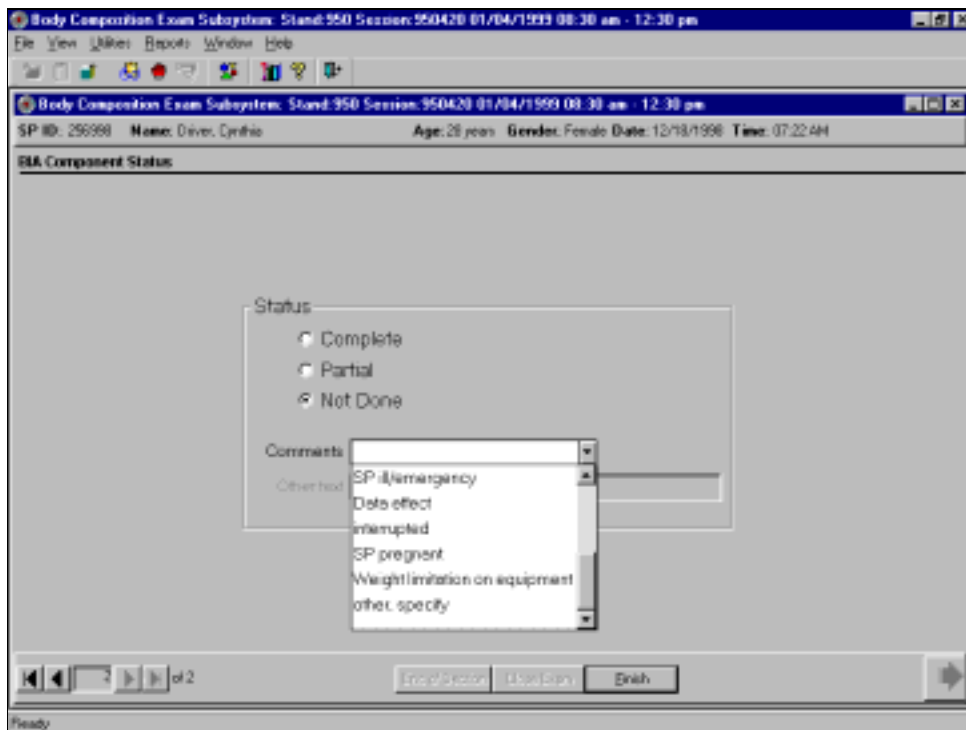

Figure 4-40. BIA component status (2)
- A list of current sessions will be displayed. See Figure 4-40.